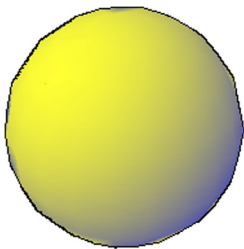

FIGURE 23.21
- Step 3.** A solid sphere is drawn based on the movements of your mouse, or you can enter a value by typing in a radius or pressing d for diameter. The final shape is shown in Figure 23.21.